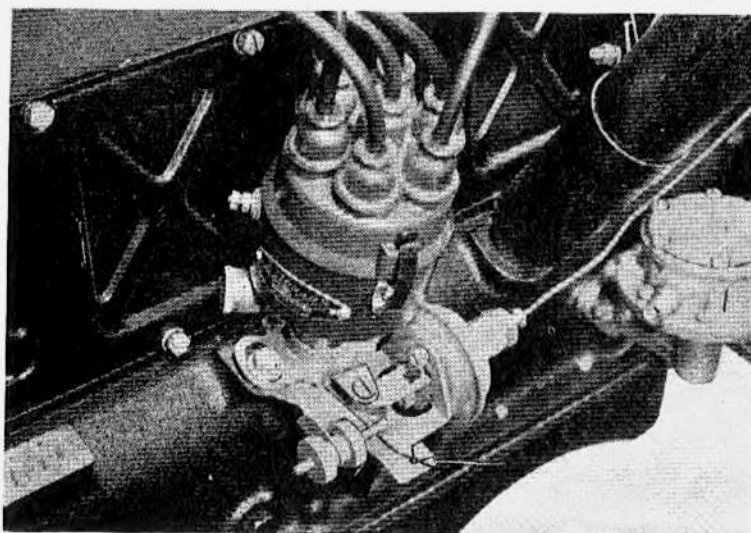

Figure 47 – Octane Selector
(1) Set the octane selector at "O" on the scale (Fig.47) and attach a Neon